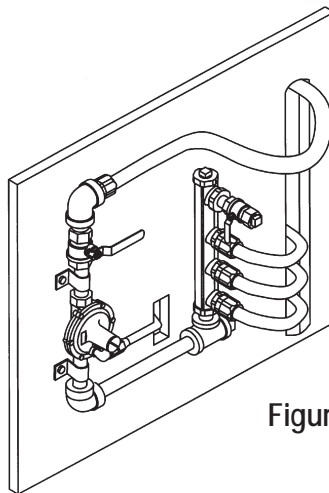

Figure 4.35
- D. A Manifold Station utilizing a pounds to inch regulator (figure 4.35) shall be installed in an accessible location to allow access to the regulator for inspection, service and replacement if required.